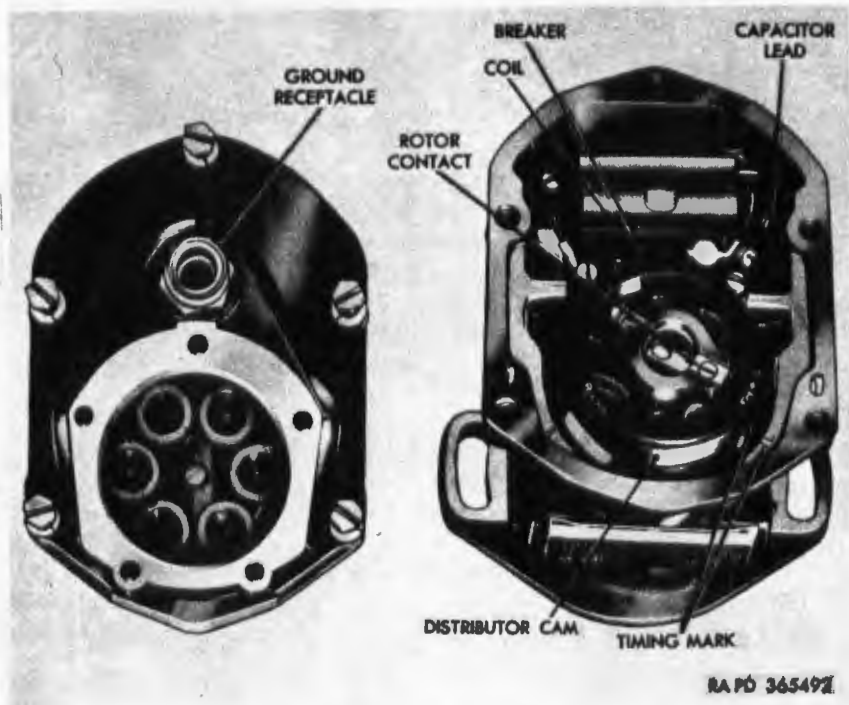

Figure 118. Bendix-scintilla magneto—cover removed.
- (7) Connect the two red leads of timing light 41-L-1439 (fig. 117) to the two magneto breaker terminals (Bendix-Scintilla, fig. 118), or to the two magneto contact studs
- (1) Loosen the five (Bendix-Scintilla) or four (American Bosch) lockwasher screws which secure magneto cover to magneto housing and remove cover. Remove and discard cover gasket.
- (2) Connect one of the red leads of timing light 41-L-1439 (fig. 117) to magneto breaker terminal (Bendix-Scintilla, fig. 118) or contact stud (American Bosch, fig. 119). Connect black lead to magneto housing. Turn on timing light switch lever.
- (3) On Bendix-Scintilla (fig. 118), rotate distributor cam clockwise until timing mark on magneto aligns with timing mark "L" on pad of magneto housing. On American-Bosch (fig. 119), rotate magneto drive coupling counterclockwise, as viewed from the bottom of the magneto, until timing marks align. If breaker point adjustment is correct, timing light indicator lamp will come on at the instant that timing marks align.